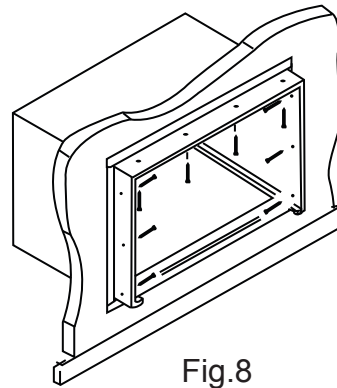

Fig.8
5. Screw or nail cabinet wooden frame using shims if frame is oversized to eliminate distortion. See Fig.8. Remember to maintain proper slope as described in Step 3.